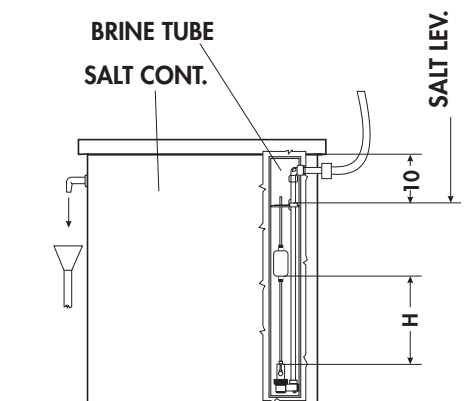

Fig. 5
- Fill the container with salt up to 10 mm from the edge of the brine tube (Fig. 5)